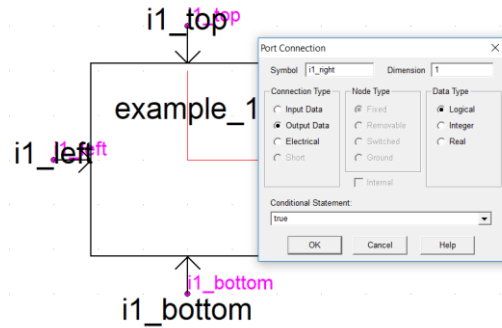

Fig.7. Redefine the port information.
Step 4: Further adjust the component by using the “Graphic” page if necessary. Double left-click the component icon, then click the “graphic” page below the workspace window, you will see the component illustration with port name on each side. Double click the component name, the port connection window will pop up as illustrated in Fig.7. The port information can be adjusted in this window: